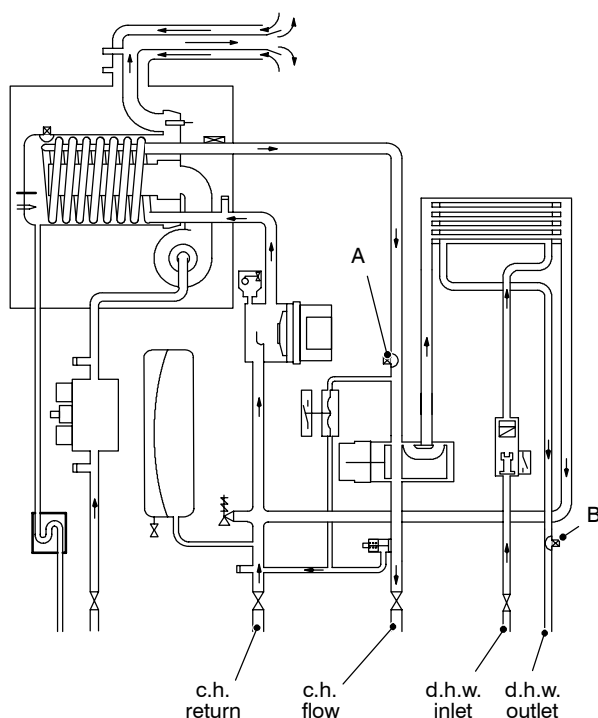
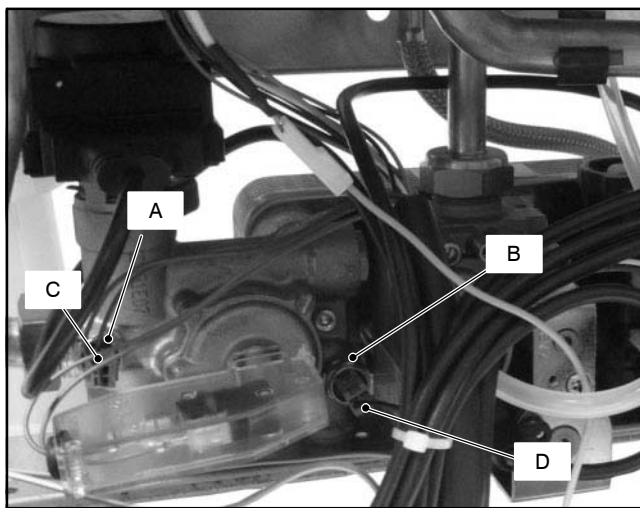

Fig. 15.2
Fig. 15.3
On the boiler there are two Temperature probes. One on the output of the primary condensing heat exchanger (c.h. Temperature probe) A in Fig. 15.2 and Fig. 15.3; one on the output of the d.h.w. heat exchanger (d.h.w. Temperature probe) B in Fig. 15.2 and Fig. 15.3.
- 3 Remove the electric connector C and unscrew the c.h. Temperature probe A – Fig. 15.3 or Fig. 15.4
- 3 Remove the electric connector *D* and unscrew the d.h.w. Temperature probe *B* – Fig. 15.3